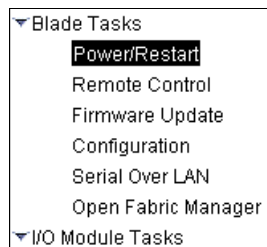

Figure A-7 Power/Restart in the left menu of the AMM Web interface
2. In the left menu, click **Power/Restart** under Blade Tasks as shown in Figure A-7.